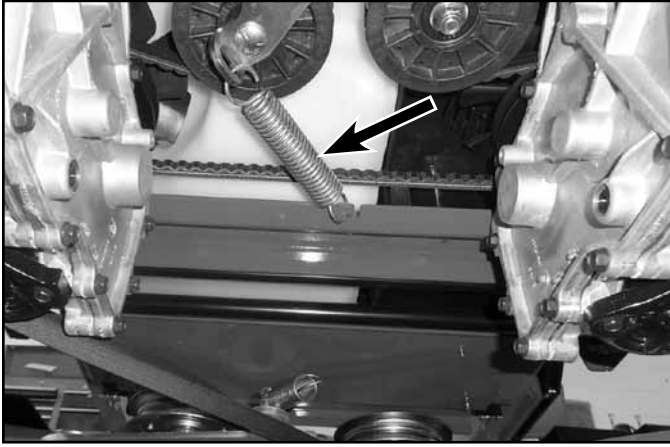

Fig. 069
4. Install the drive belt tensioner spring as oriented below (Fig. 069).